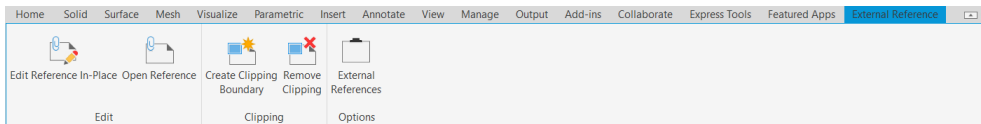

Figure 2-35 The External Reference contextual tab added to the Ribbon
1. To edit in-place, select an external referenced object; the **External Reference** contextual tab will be added to the **Ribbon**, as shown in Figure 2-35. Choose the **Edit Reference In-Place** tool from the **Edit** panel; the **Reference Edit** dialog box will be displayed.